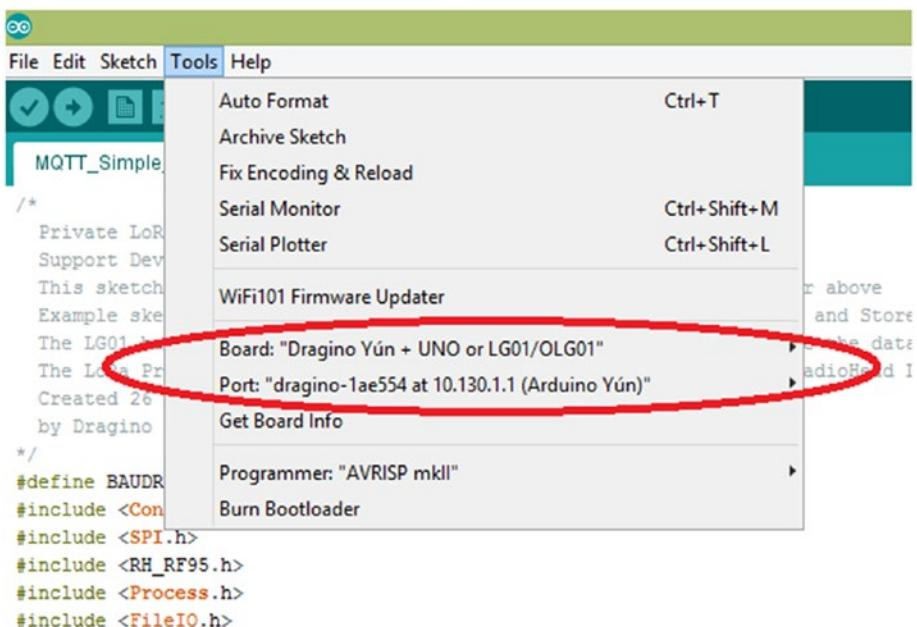

Figure 7-18. Upload options for LG01 gateway
7. Select Tools ➤ Board and choose Dragino Yun + UNO or LG01/OLG01 (Figure 7-18).